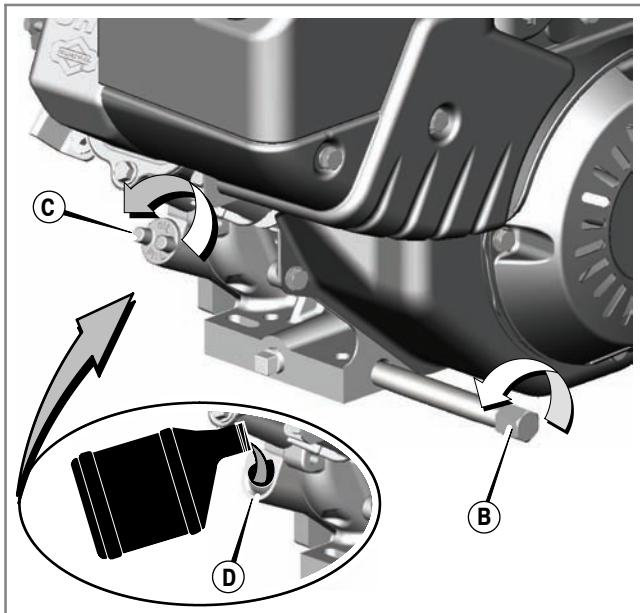

Figure 18
2. Remove the oil drain cap (**B**, Figure 18). Drain the oil into an approved receptacle.
1. Remove the oil fill cap (**C**, Figure 18).